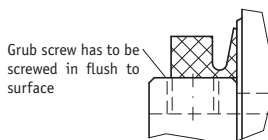

Fig. 2: Axial seal
- Make sure that the axial seal is correctly mounted (see fig. 2)!